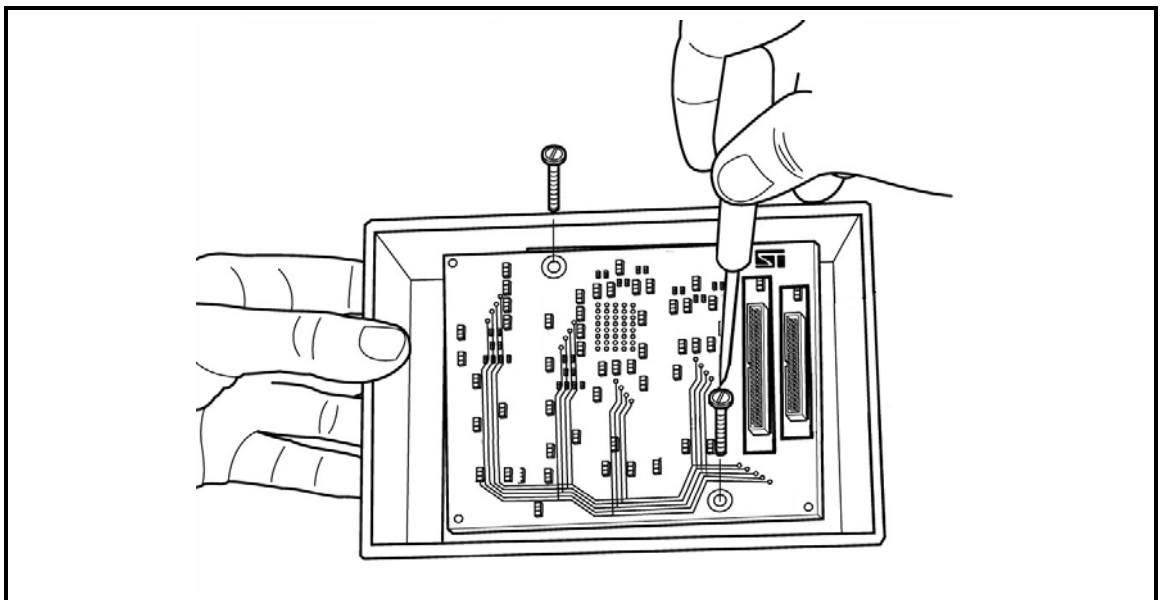

Figure 9: Removing the TEB screws
- 2 Remove the two screws that secure the TEB to the other probe boards as shown in Figure 9.